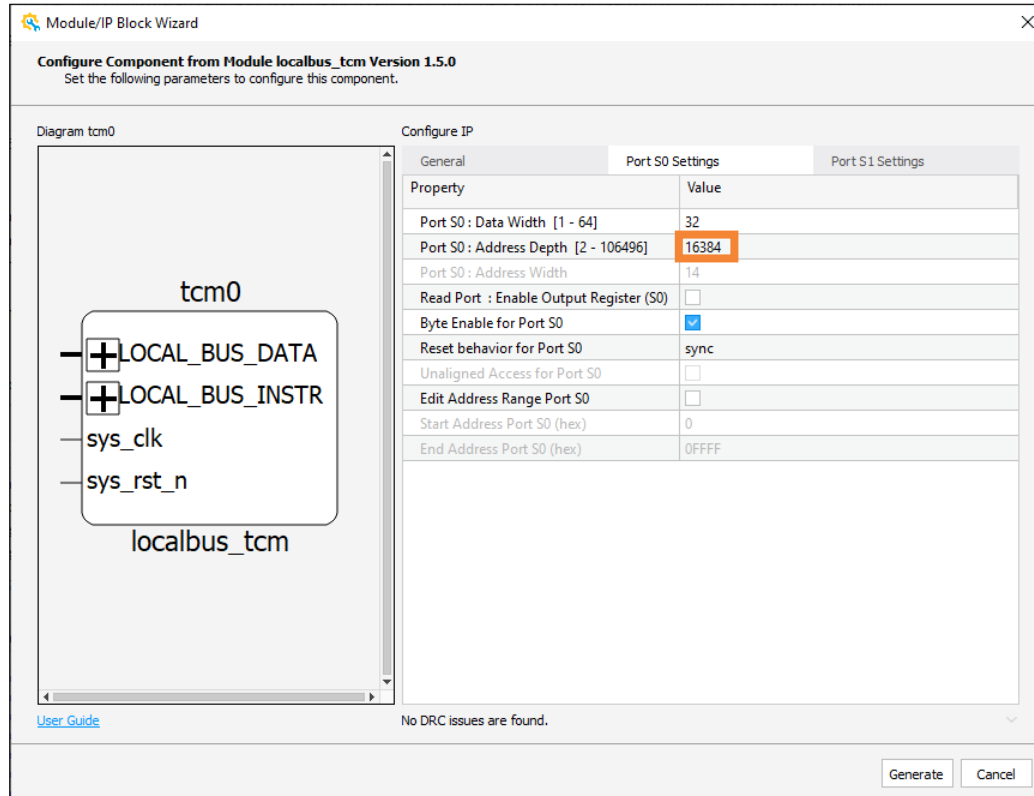
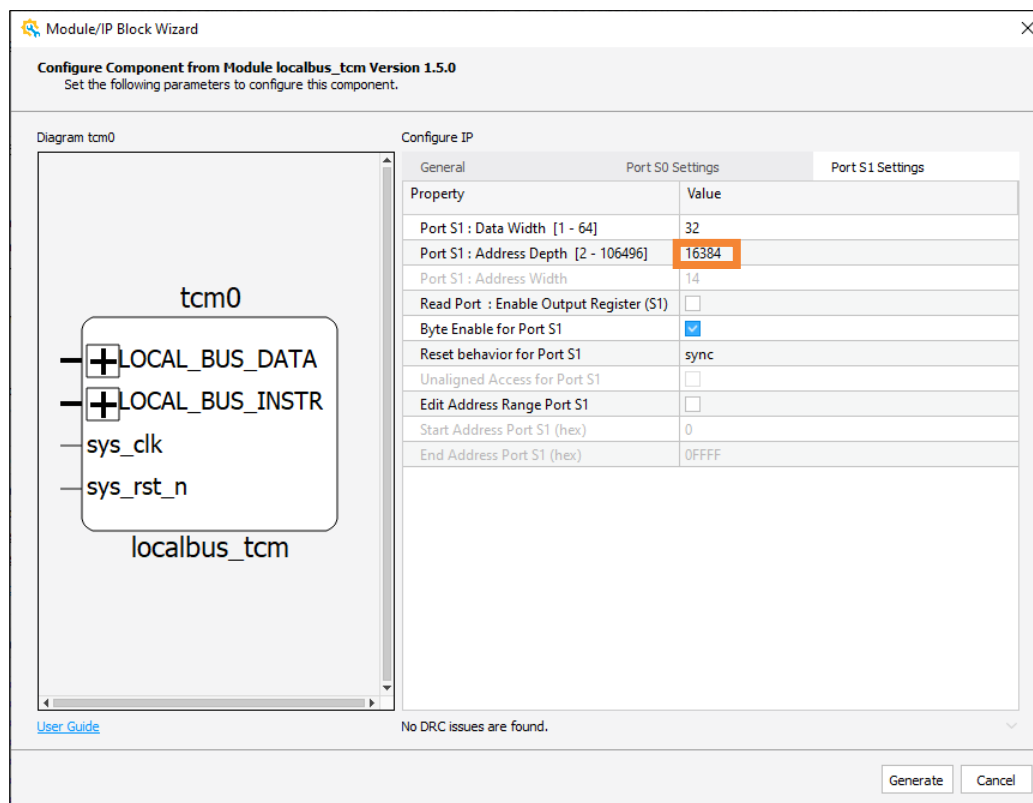

Figure A.9. tcm0\_inst Port S0 Address Depth Settings
Figure A.10. tcm0\_inst Port S1 Address Depth Settings
2. Double-click the tcm0\_inst IP. The Port S0 address depth settings and the Port S1 address depth settings are shown in the Module/Block IP Wizard GUI (Figure A.9 and Figure A.10).